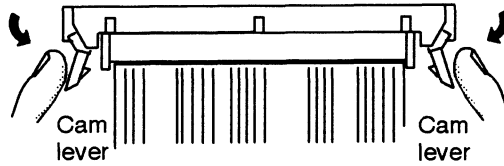

Figure 10 Locking the SCSI bus connector's cam levers
5. Once you have connected the SCSI bus cable, lock the cam levers of the SCSI bus connector (Figure 10).